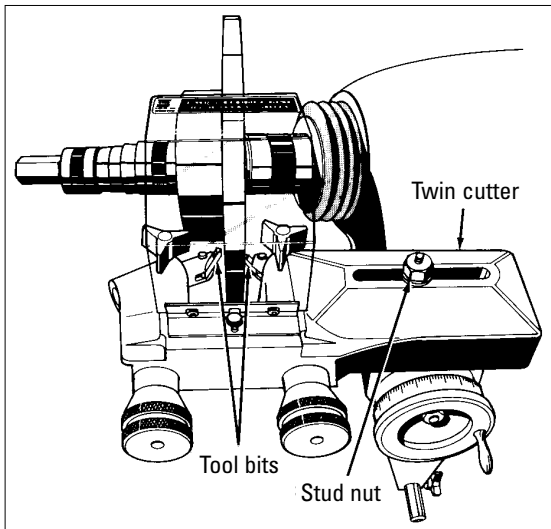

Figure 21 - Center the twin cutter
**2.** Center the twin cutter to the rotor (figure 21). Loosen the stud nut and adjust the twin cutter so that the rotor is centered between the tool bits. The slot of the twin cutter should be approximately parallel to the lathe spindle. Tighten the stud nut firmly.